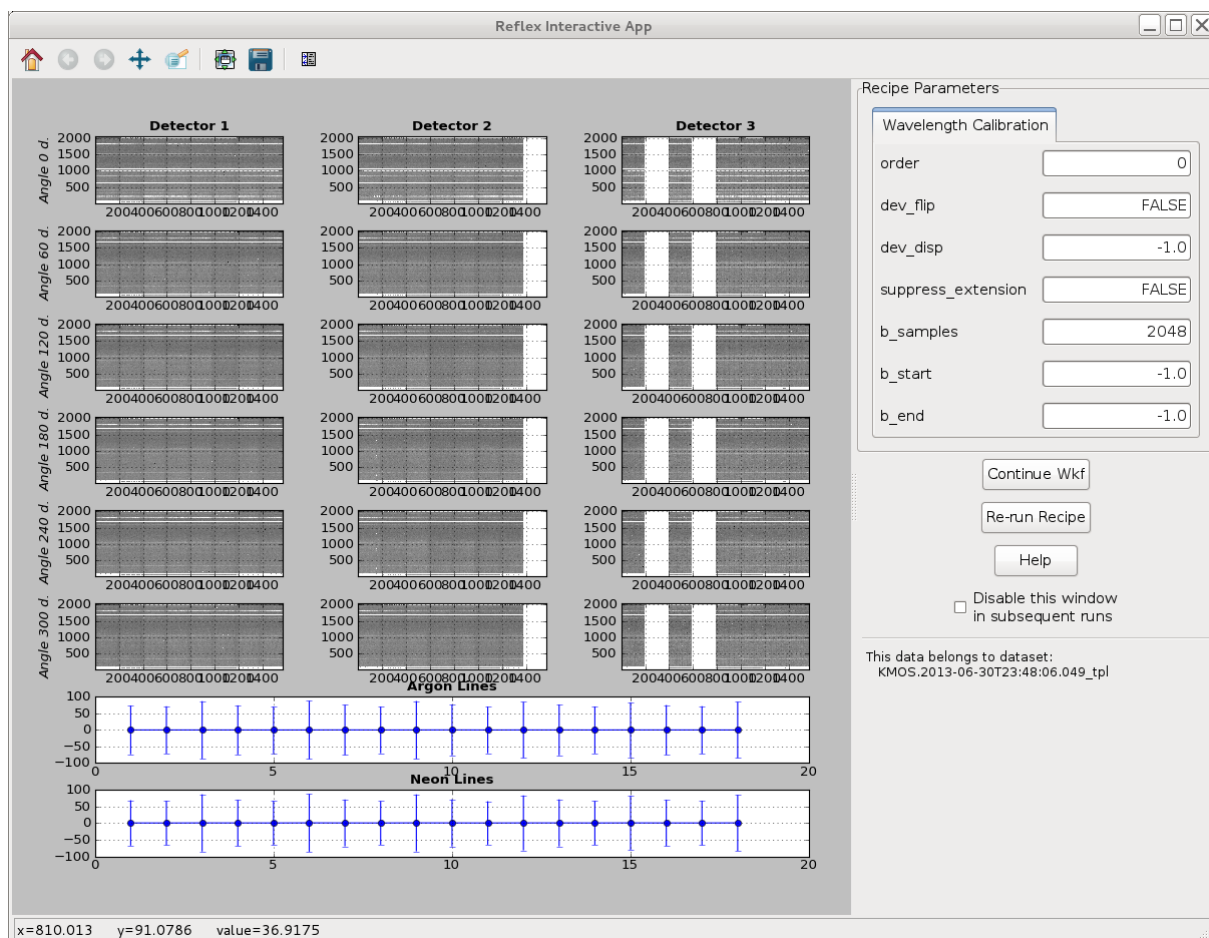

Figure 9.1: The interactive window for the Wavelength Calibration actor for the KMOS tutorial data set..
3. `Wavelength Calibration`: Figure 9.1 shows interactive window that will pop-up at the end of the execution of the `kmo_wave_cal` pipeline routine. The image panels at the top of the window show the reconstructed arc frames for each of the three detectors, at each of the six rotator angles (0, 60, 120, 180, 240, and 300 degrees). For each of these 18 frames, the relative average offset of the reconstructed arc lines are plotted in units of km/s for each of the Argon and Neon arc lines (bottom two plots).